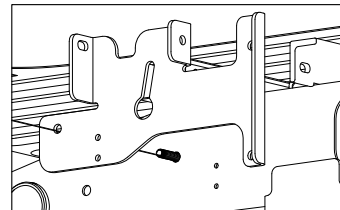
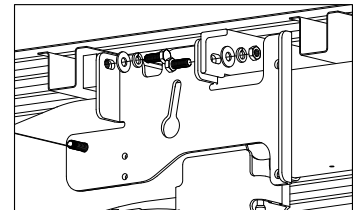

FIGURE C5: View from outside of Driver Side Frame.
FIGURE C6: View from outside of Driver Side Frame.
3. **Install the sideplates.** Next, while the fish wire is still attached to the carriage bolt, thread the length of the fish wire through the mounting hole on the sideplate, see figure C5. Next attach the sideplate to the front and rear crossmembers using 1/2" hardware as shown in figure C6.